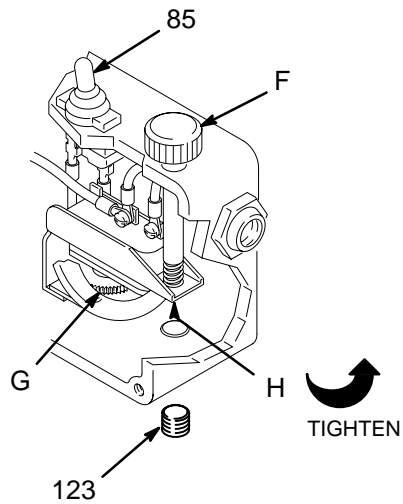

Fig. 18
**NOTE:** See Fig. 18 for the following procedure.
2. Remove the cover (79) and plug (123).
3. Open the needle valve slightly. Turn the pressure control knob (F) to the minimum setting.